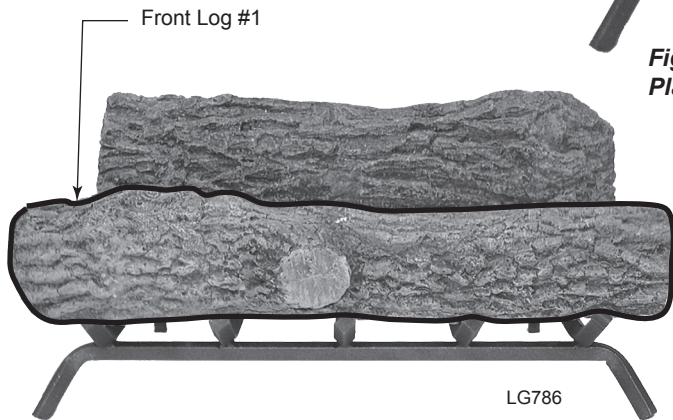

Figure 17 - Place Front Log #1 on Front of Grate
2. Place Front Log #1 on front of grate. *Figure 17*